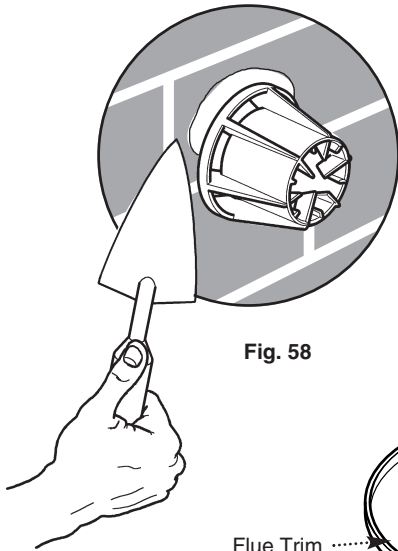

Fig. 58
9. Make good between the wall and the air duct inside and outside the building if the internal fitting kit has not been used (Fig. 58).